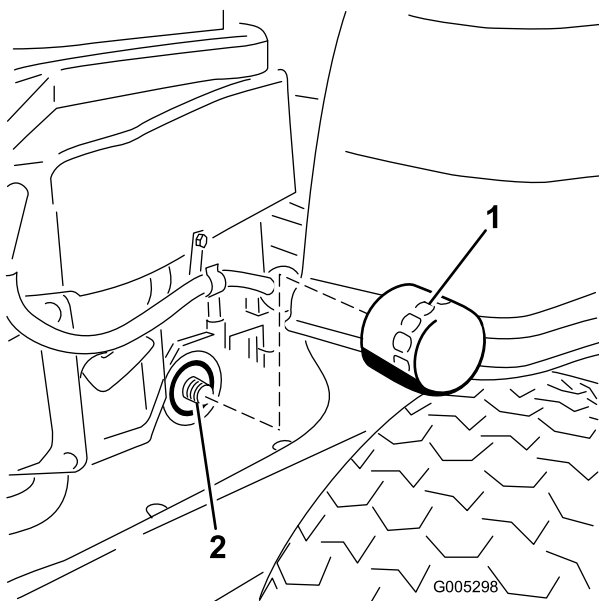

Figure 28
10. Locate the oil filter on the right side of the engine. Remove the old filter and wipe off the filter adapter with a clean cloth (Figure 28).
12. Install the replacement oil filter to the adapter. Turn the oil filter clockwise until the rubber gasket contacts the pad, then tighten the filter an additional 3/4 to 1 turn (Figure 28). Wipe up any excess oil on the frame.